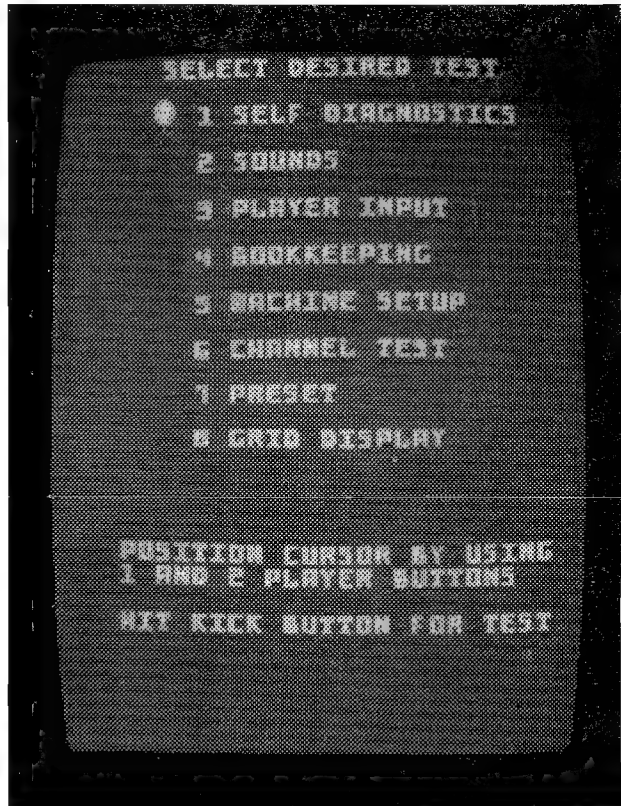

Figure 8 Self test display
The Self-Test mode has eight (8) major categories as illustrated by Figure 8.